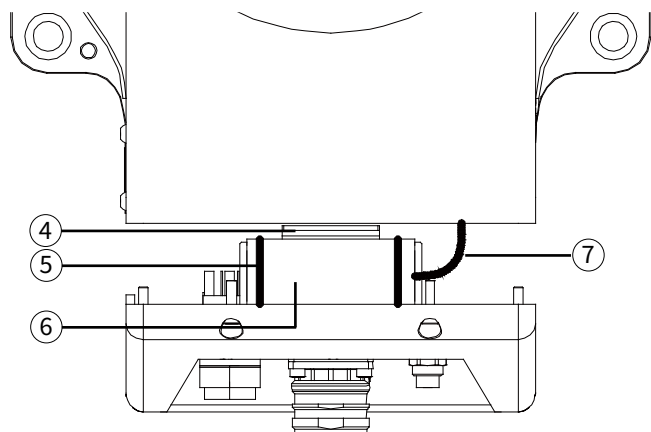

Figure 36. Step 3
- ③ Step 3: Separate the rear base cover until it is as shown in Figure 36. You will find that the battery is connected to its holder with two nylon ties. Cut the nylon ties with pliers and remove the connector on the battery adapter cable to take out the battery.